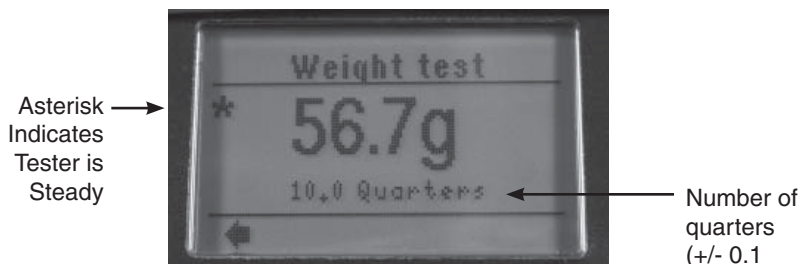

Figure 8. Weight Test Reading for 10 Quarters
4. Place test weight or 10 new quarters into the test cell when the screen indicates to “PLACE WEIGHT.” Once the weight or quarters are placed in unit, wait for reading to display. The asterisk in the upper right hand corner indicates the tester is steady and the weight is then accurate (Figure 8).